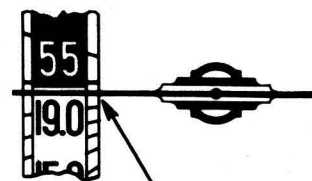

FIG. 3—Dial Pointer Calibration
2. Holding the tuning condenser in this position, turn the pointer until it is in the position shown in Fig. 3. This is the correct position of pointer at maximum capacity of tuning condenser.